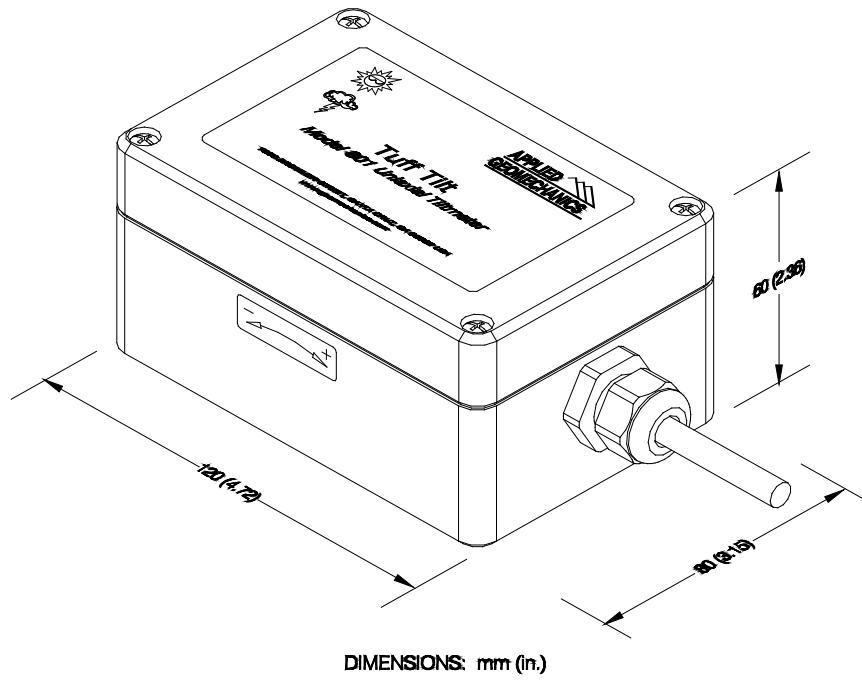

Figure 1. Model 801 Tiltmeter - Longitudinal Tilt Style
Model 801 tiltmeters are available in high-gain ( $\pm 0.5^\circ$  range), standard ( $\pm 3^\circ$  range) and wide-angle ( $\pm 50^\circ$  range) versions. Each of these versions is produced in both longitudinal and transverse tilt styles (Figures 1 and 2). Range and tilt style are specified when ordering.
3. Refer to the (+) and (-) tilt directions in Figure 1 or 2 (also shown on a label on your tiltmeter). With the tiltmeter in your hands, rotate it to verify the sign (polarity) of the outputs. A rotation in the (+) direction should make the voltage output become more positive.